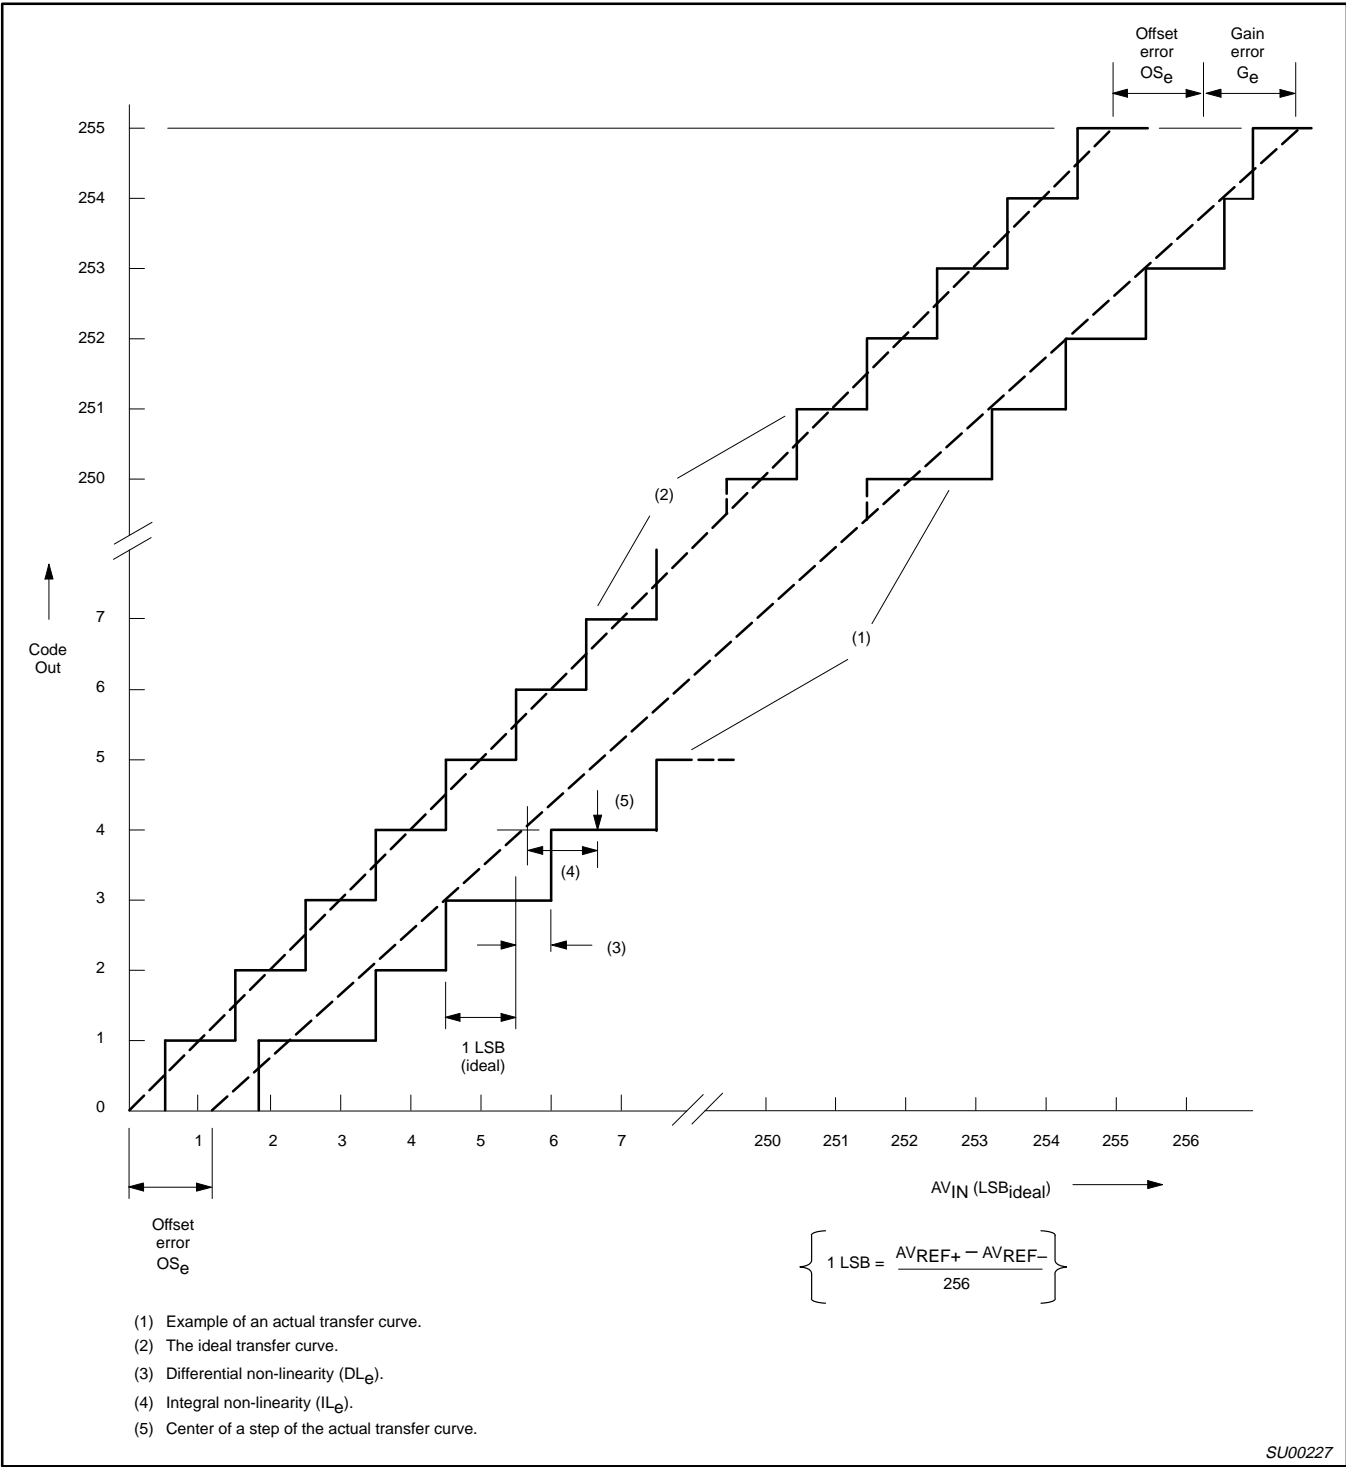

Figure 1. ADC Conversion Characteristic
- The differential non-linearity (DLe) is the difference between the actual step width and the ideal step width. (See Figure 1.)
- The integral non-linearity (ILe) is the peak difference between the center of the steps of the actual and the ideal transfer curve after appropriate adjustment of gain and offset error. (See Figure 1.)
- The offset error (OSe) is the absolute difference between the straight line which fits the actual transfer curve (after removing gain error), and a straight line which fits the ideal transfer curve. (See Figure 1.)
- The gain error (Ge) is the relative difference in percent between the straight line fitting the actual transfer curve (after removing offset error), and the straight line which fits the ideal transfer curve. Gain error is constant at every point on the transfer curve. (See Figure 1.)